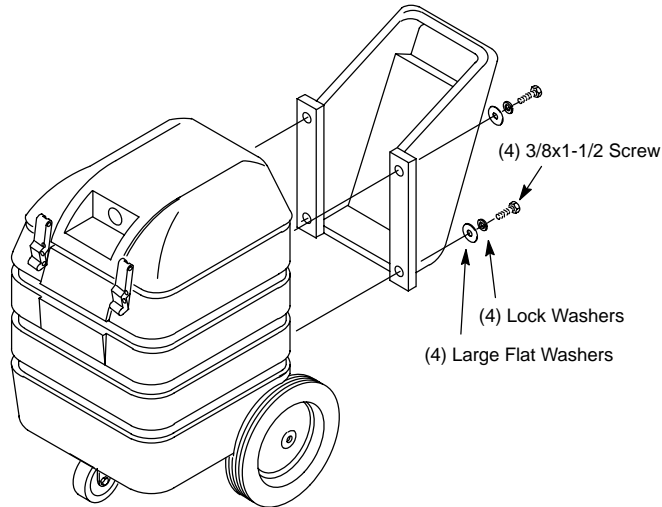

FIG. 1.
2. Align handle to mounting holes and fasten with (4) 3/8x1-1/2" hex head screws with flat and lock washers. Use a 9/16" wrench (Figure 1.).